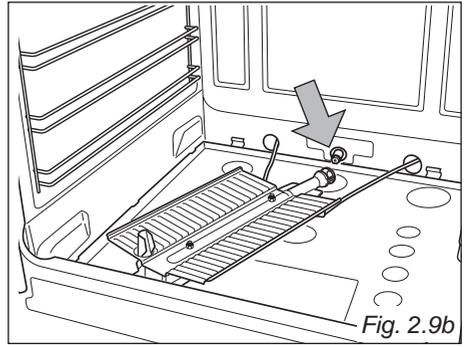

Fig. 2.9b
- Withdraw the burner as shown in figure 2.9b and rest it inside the oven. Take care not to damage the safety valve probe and the electric ignition electrode.
- Using a 7 mm box spanner, unscrew the injector (indicated by the arrow in fig. 2.9b) and replace it with a new one selected in accordance with the "Table for the choice of the injectors".